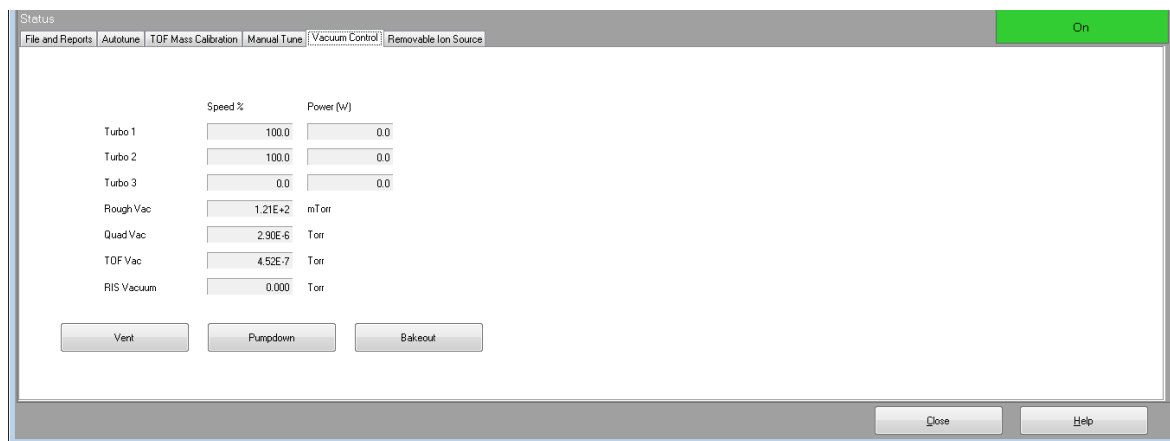

Figure 21 Vacuum Control tab
Within 10 to 15 minutes the turbo pump speed should be up to 80% (Figure 21). The pump speed should eventually reach 95%. If these conditions are not met, the MS electronics will shut off the foreline pump. In order to recover from this condition, you must power cycle the MS. If the MS does not pump down correctly, see the manual or online help for information on troubleshooting air leaks and other vacuum problems.
- 2 Select the **Vacuum Control** tab. See Figure 21.